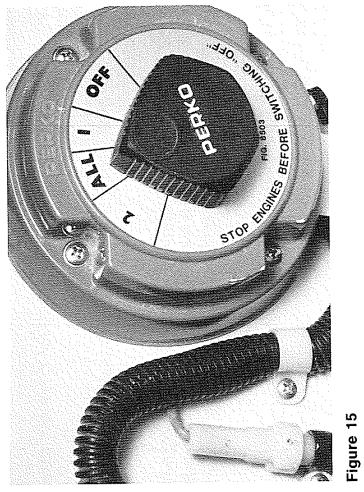

Figure 15
3. Put the battery main switch in the "On" position. See figure 15.